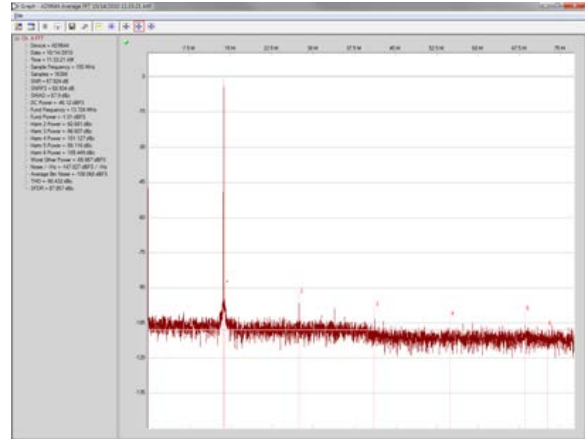

Figure 15. Graph Window of VisualAnalog
1. Adjust the amplitude of the input signal for Channel A so that the fundamental is at the desired level. (Examine the **Fund Power** reading in the left panel of the **VisualAnalog Graph – AD9644 Average FFT** window (see Figure 15).)